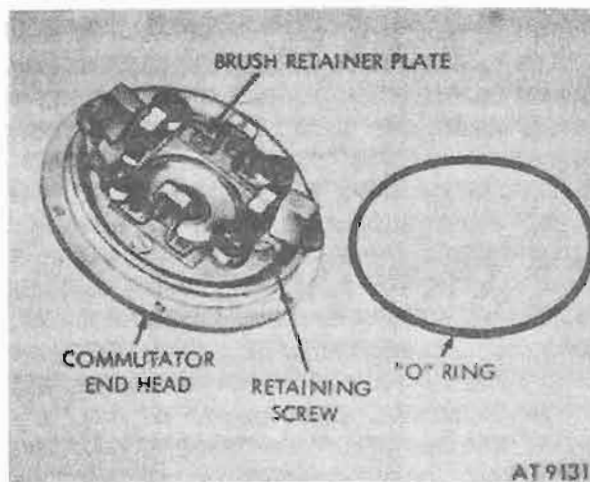

Figure 7-9. Commutator-end-head O-ring.
a. Remove O-ring from commutator end head (fig. 7-9). Remove varnish from brush retainer plate with suitable solvent.
c. Remove four brush plate retaining screws. Lift plate from head (fig. 7-9).